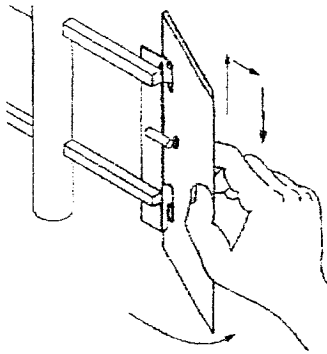

Fig. 9
G. Remove the plastic scraper blades in the following sequence, (See Fig. 9):